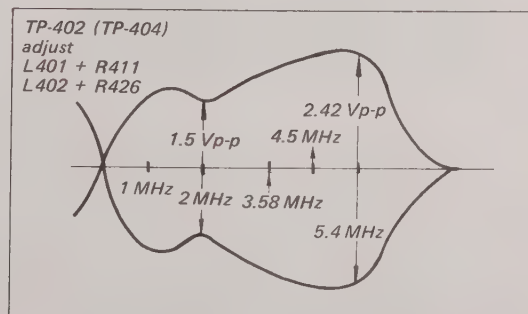

Fig. 8-4. Playback equalization
4. Adjust L401 and R411 for the response shown in Fig. 8-4.
7. Adjust L402 and R426 for the response shown in Fig. 8-4.